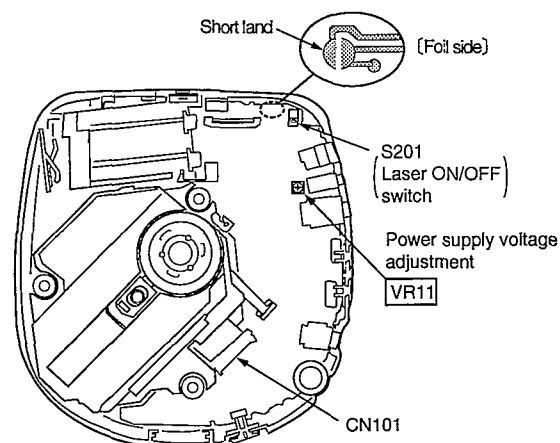

Fig. 1
Short-circuit the lands of the laser ON/OFF switch (S201) by soldering them. It turns “ON” position. (Refer to below Fig. 1 or printed circuit board and wiring connection diagram for short land location on page 28.)
2. Take care to connect CN101, as shown in Fig.1.
4. Adjust **VR11** on the P.C.B. at 2.70 ± 0.02 V, as shown in Fig. 1.